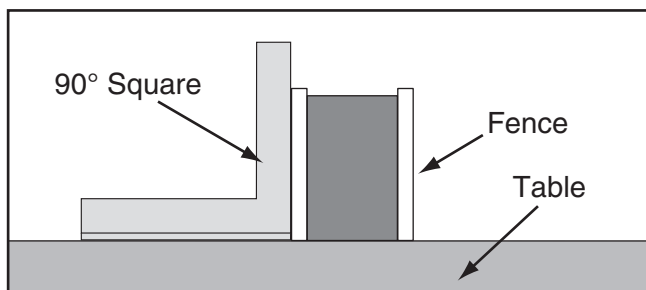

Figure 116. Checking if fence is square to table.
2. Place a square on the table against the face of the fence (**Figure 116**) to check if the fence is square to the table.